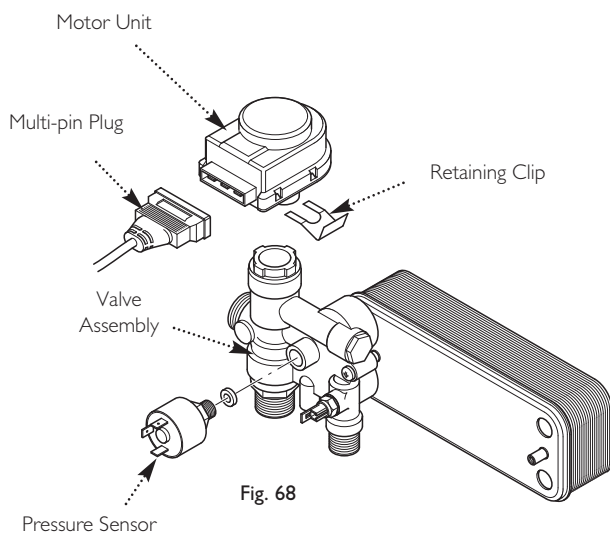

Fig. 68
13.21 Diverter Valve - Motor Unit & Assembly (Fig. 68)